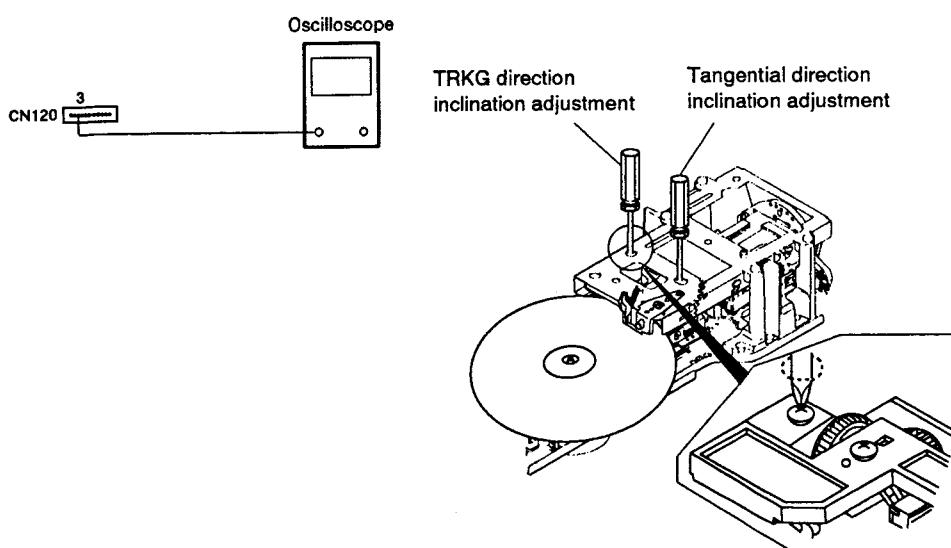

Fig. 4 RF waveform
- Search for #2,701 and observe the RF waveform. (Fig. 4)